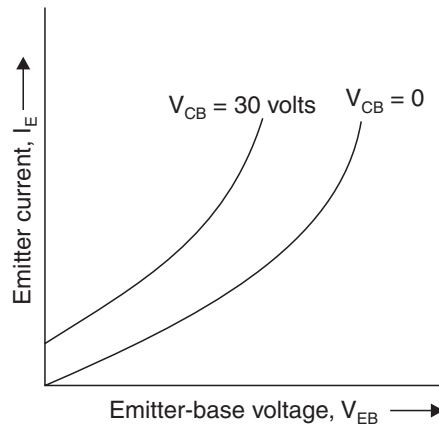

Fig. 37. Input characteristic curves.
- A graph is plotted between I_E and V_{EB} as shown in Fig. 37.